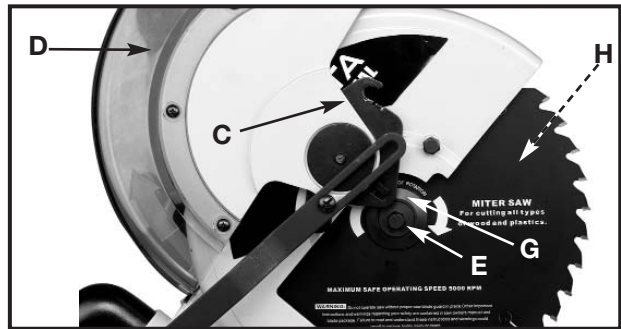
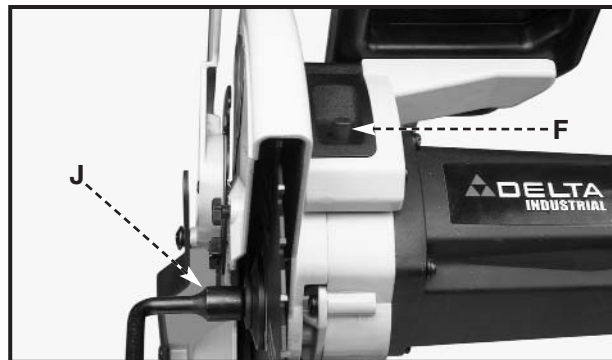

Fig. 43
Fig. 44
3. Rotate the arbor cover (C) Fig. 43, and move the guard (D) Fig. 43 to the rear, exposing the arbor screw (E).
4. Remove the arbor screw (E) Fig. 43, by turning screw clockwise with wrench (supplied), while pressing in on arbor lock (F) Fig. 44. Remove the outside blade flange (G) Fig. 43, and saw blade (H) Fig. 43. **Do not remove the inside blade flange.**
5. Attach the new saw blade. Ensure that the **teeth of saw blade are pointing down at the front**, and attach the outside blade flange (G) Fig. 43. Check to see that the flats on the outside blade flange are engaged with the flats on the arbor shaft.
6. Thread the arbor screw (E) Fig. 43, into the saw arbor by turning the screw (E) counterclockwise as far as possible by hand. Tighten the arbor screw (E) Fig. 43 with the supplied wrench (J) Fig. 44 while pressing in on the arbor lock (F) Fig. 44.
7. Rotate the arbor cover (C) Fig. 43, and move the guard (D) to the front. Tighten the screws (A) that were loosened in **STEP 2**.